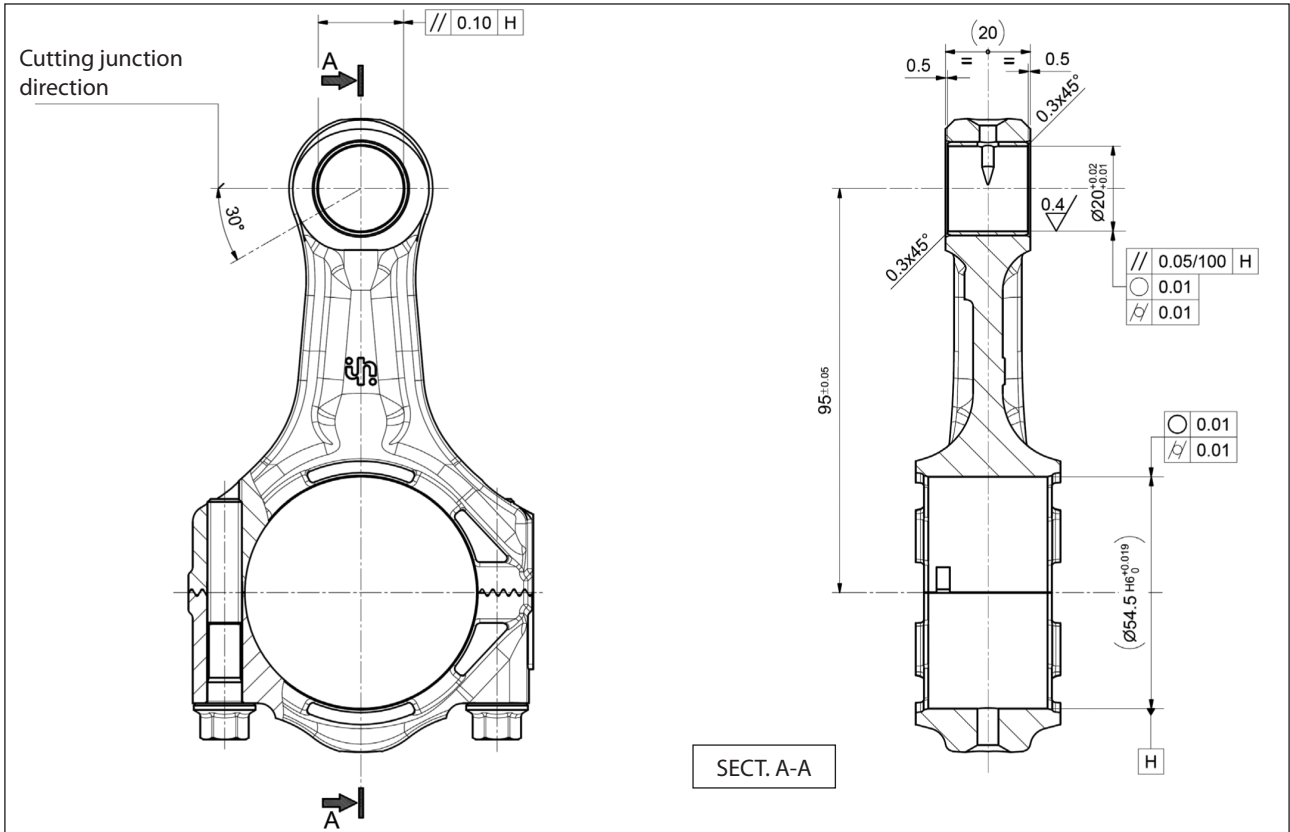

Fig. 25
- the cutting junction is directed as shown in Fig. 25.
Then perform mechanical processing. The dimensions and tolerances shown in Fig. 25 must be respected.